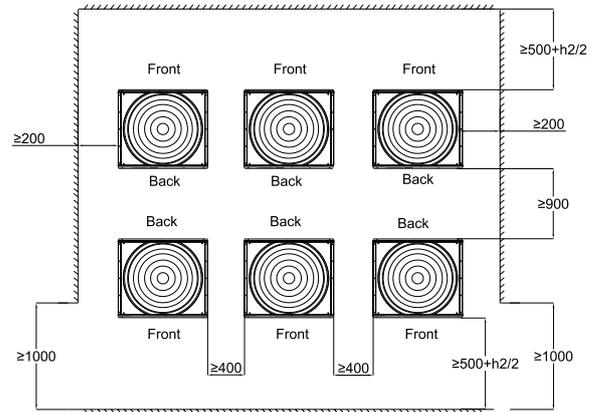

Figure 12
- Obstacles in the front, back and sides, back-to-back mounting 2 (see Figure 12)